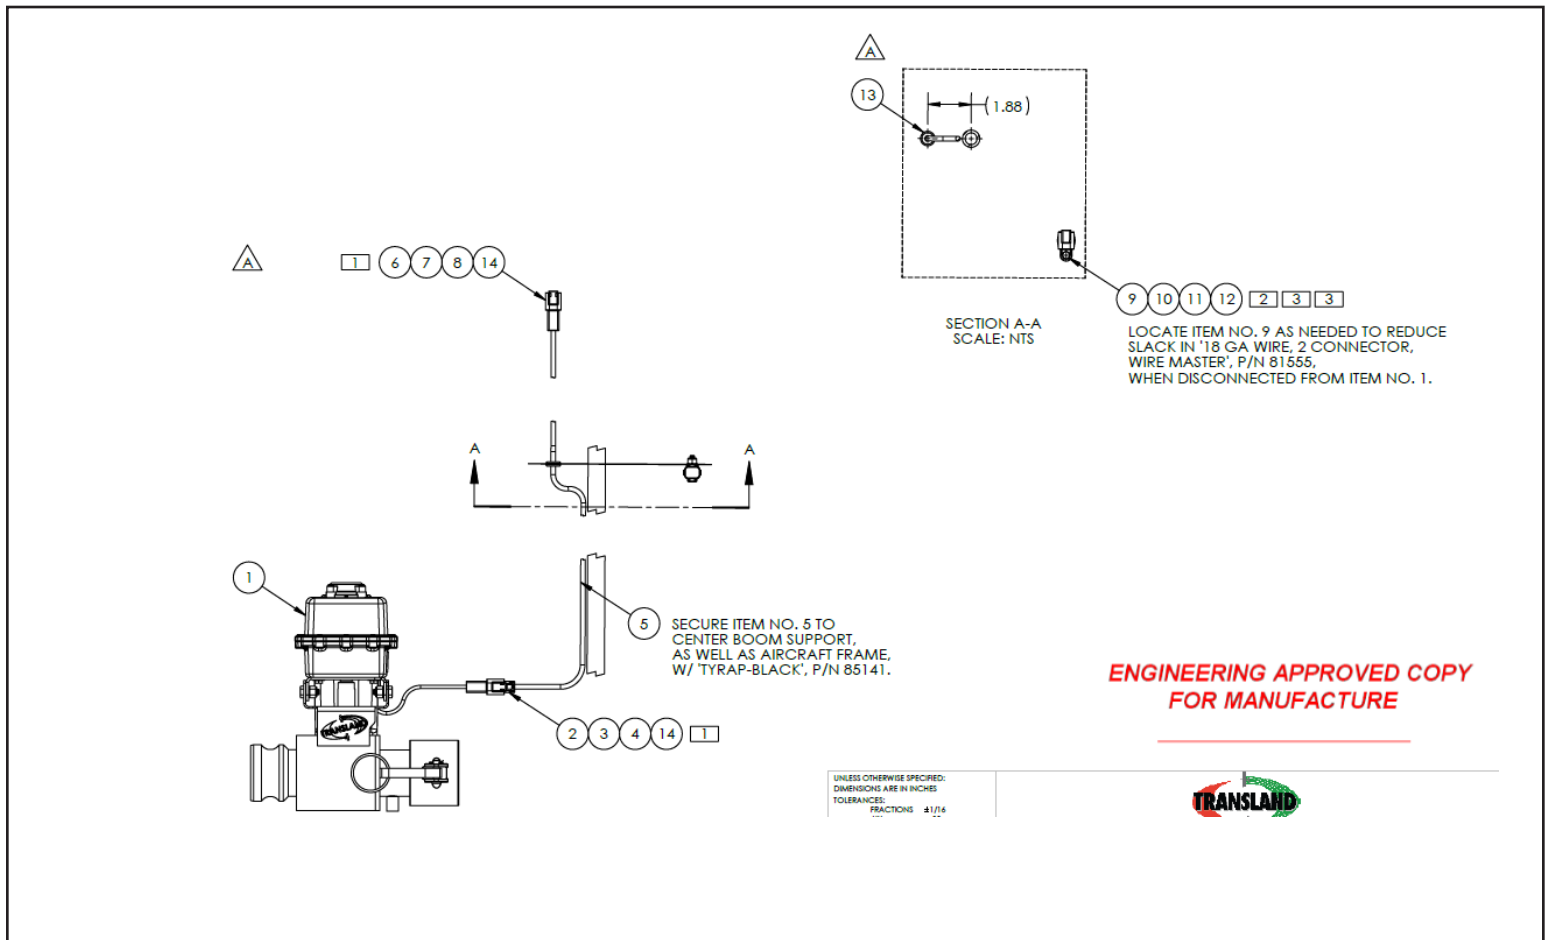

Figure 4-2: Wiring Illustration for Right-Hand Boom Shut-Off from Cockpit to Valve
- Drill a 7/16" hole in the predetermined location, according to Figure 4-2.
14. Run item 5 wiring to the right-hand boom shut-off valve from the installed control panel.
15. In the aircraft's interior, secure wiring to the aircraft frame using item 15.
16. Along the aircraft's exterior, secure wiring with PN 85141 onto the nearest center boom support, locating as necessary per Figure 4-2.
22. Once the wiring has been run, select locations for item 9 (per guidelines on Figure 4-2) to reduce slack in the wiring when disconnected from item 1.
24. Drill a hole with a size 9 drill bit into the belly skin and fasten the dust cap with items 10, 11, and 12.